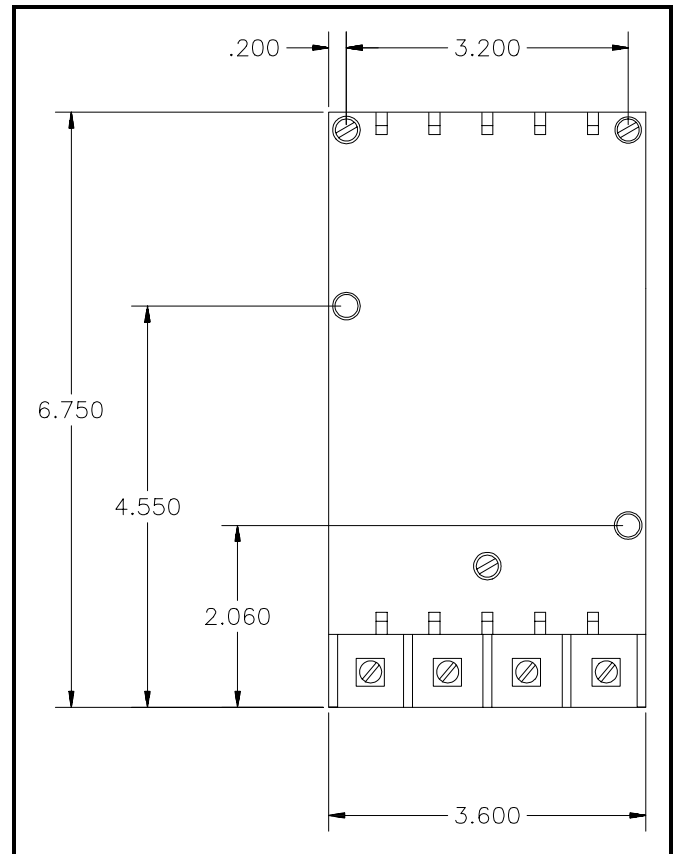

Figure 4.3 Power Module Dimensions
- The separated power module can physically fit in the desired location (See clearance dimensions in Figure 4.3)